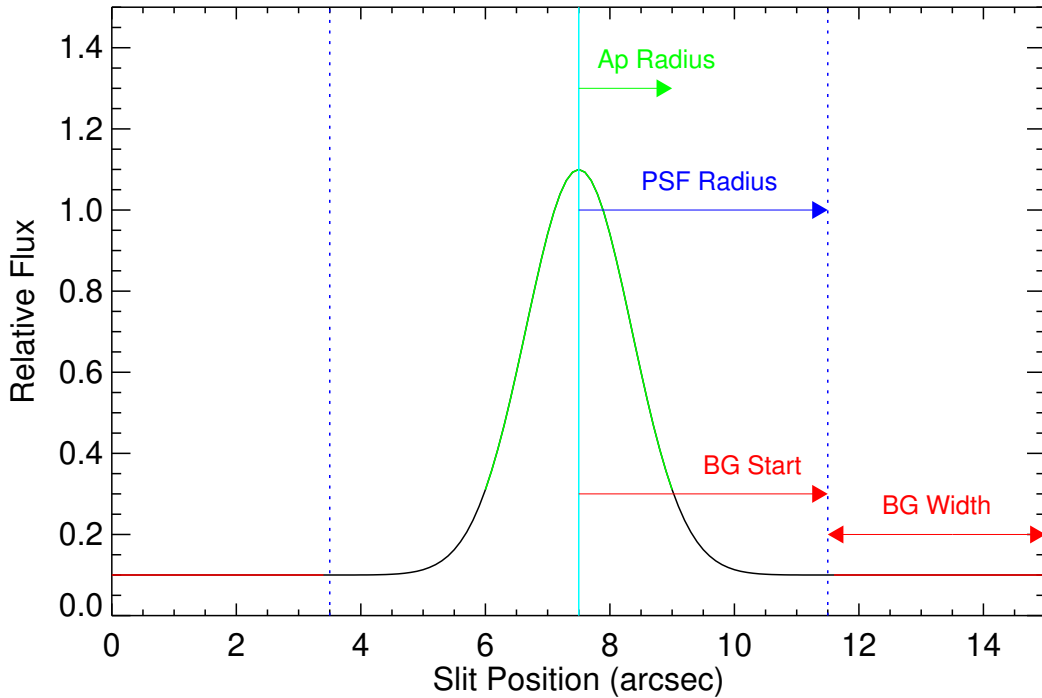

Figure 8: Extraction parameters for a point source.
The extraction parameters can now be defined in the **Define Extraction Parameters** box. By default, Spextool carries out a so-called “optimal” extraction for point sources but since the user is more likely familiar with simple aperture photometry, we first describe how the user can perform a non-optimal extraction. We recommend the user read the follow step even if they plan to use the optimal extraction mode because it describes parameters that the user will be required to provide during the optimal extraction. Figure 8 shows a graphical representation of the extraction parameters described below.
34. To perform a simple sum (non-optimal) extraction, the user should first un-select the **Optimal** button. The user must then provide values for four parameters: **Ap Radius**, **BG Start**, **BG Width**, and **Fit Deg**. The first three are the one-dimensional equivalents of the standard two-dimensional aperture photometry parameters, i.e. the **Ap Radius** is the size of the aperture that Spextool uses to compute the source count rate at each column by summing the pixels in the aperture, the **BG Start** value is the inner radius of the background annulus, and **BG Width** is the width of the background annulus (see Figure 8). The final parameter, **Fit Deg**, specifies the degree of the polynomial used to fit the background across the object aperture - degree = 0 is a constant while degree = 1 is a linear fit with slope and offset.
of a star (e.g. Figure 8) at a wavelength  $\lambda$  and let  $C_{\lambda,i}$  and  $V_{\lambda,i}$  be the count rate and variance of the count rate in the  $i$ th pixel of the profile (you can think of  $\lambda$  as a particular column on the detector and  $i$  as the row number as you move up the slit in a given order). Further assume that we have perfect knowledge of the spatial distribution of starlight  $P_{\lambda}$  such that  $P_{\lambda,i}$  gives the probability of detecting a photon at pixel  $i$ . The quantities  $C_{\lambda,i}/P_{\lambda,i}$  and  $V_{\lambda,i}/P_{\lambda,i}^2$  then become estimates of the source count rate and variance of the source count rate at  $\lambda$ . These estimates can be combined optimally using a weighted mean as,